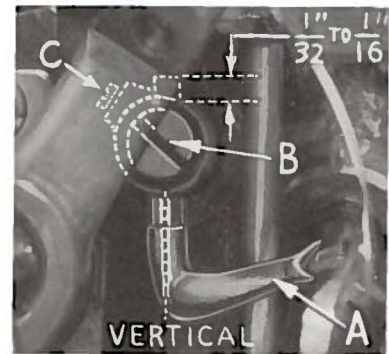

Fig. 7
Insert spreader (A, Fig. 7) in its holder. Screw (B) holds spreader in its holder, and permits it to be pushed in or out or turned around its shank. Insert spreader holder into spreader shaft, if it is not already in place. Screw (C, Fig. 7) on clamp collar holds spreader holder in the shaft, and allows holder to be rotated or adjusted laterally.
**Preliminary Setting:** When spreader is at the right end of its stroke, spreader holder should be set to position spreader shank about vertical (Fig. 7). Top end of spreader shank should extend  $1/32$  to  $1/16$  inch above the spreader holder (Fig. 7).